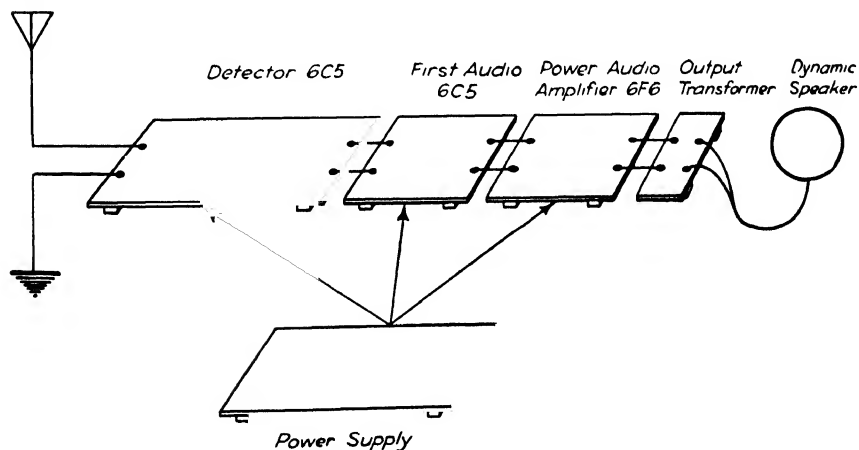

FIG. 318. Here is a three-tube set which will play well. The music will be of reasonable quality and the volume good.
Step 1. Connect a 6C5 detector, a 6C5 audio preamplifier, and the new power amplifier, as shown in Fig. 318. Connect the antenna and ground to the detector. Connect a universal out-